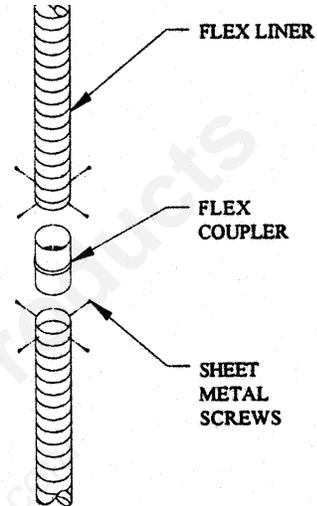

FIG. 24
Step 7. If additional lengths of flex liner are needed to span the chimney height, use a flex coupler to connect the pieces of flex liner together. Connect the flex to the coupler by using four sheet metal screws for each side (Figure 24).